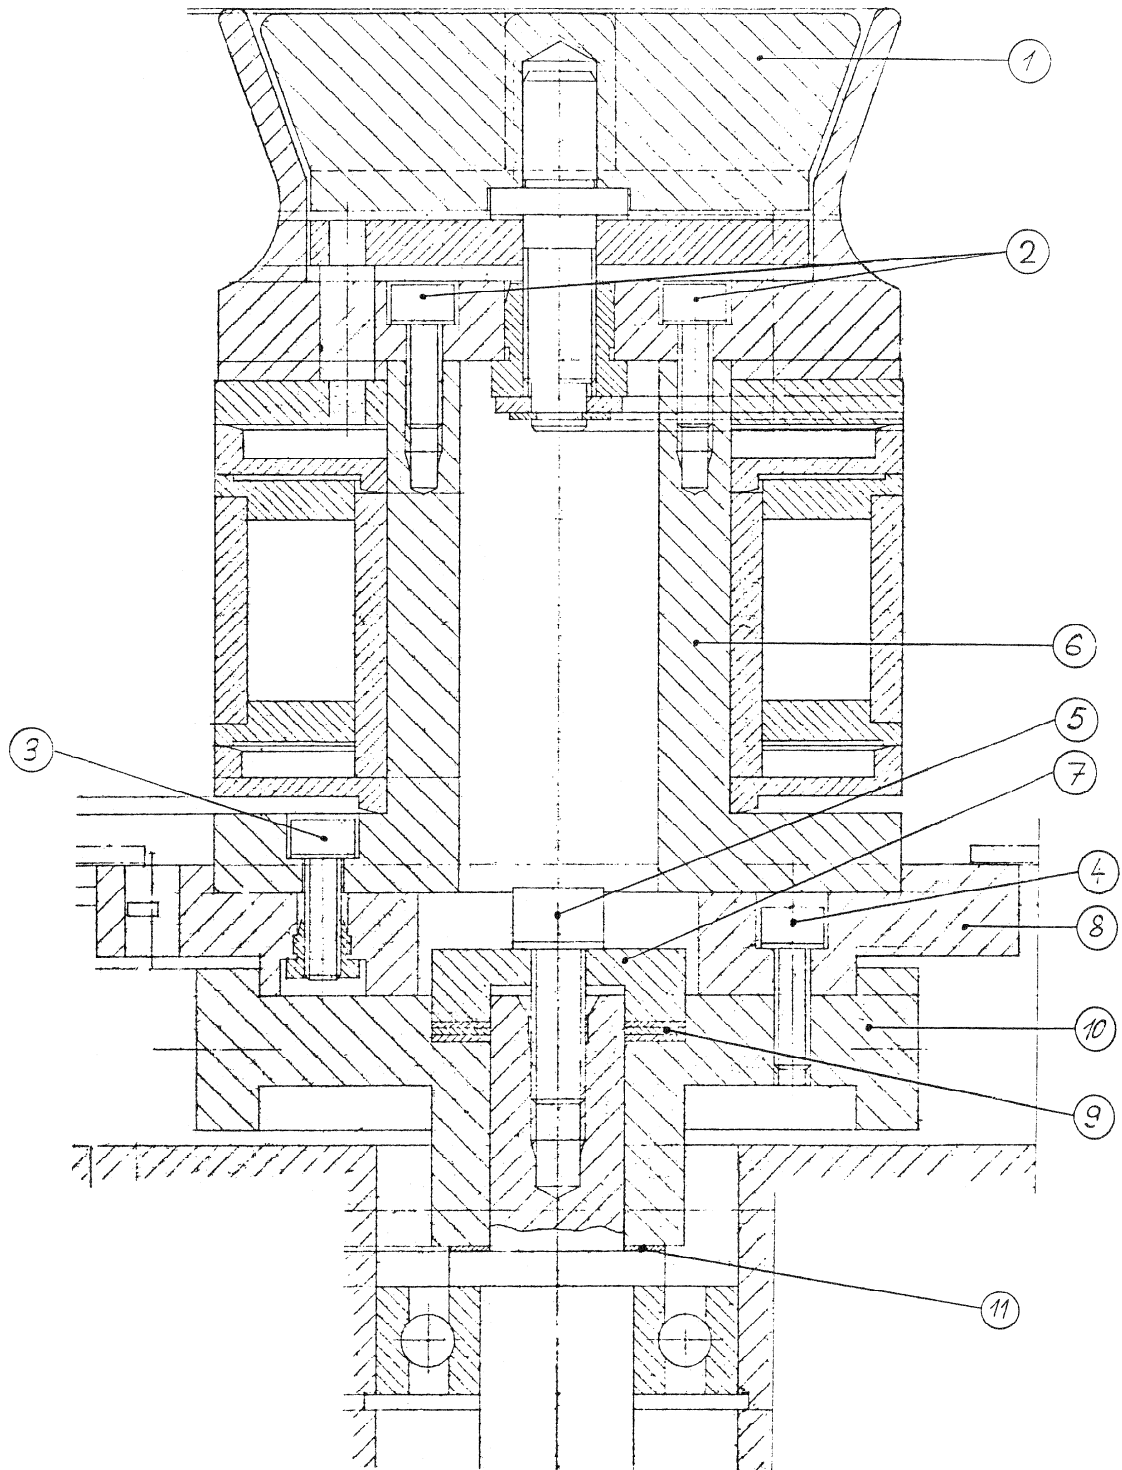

Figure 37
Subsequently loosen the Allen screw M 6x18 mm (5) (socket size 5 mm) of the brake drum.(see figure 37)